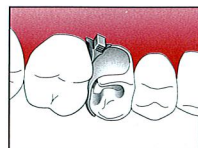

Figure 2
**4. Insert wedge.** For optimal contour, gingival seal and tooth separation, use Garrison's *Wedge Wands™* or *G-Wedge™*. A high viscosity resin packed into the preparation will be trying to displace the band away from the tooth, so wedge firmly (Figure 2).